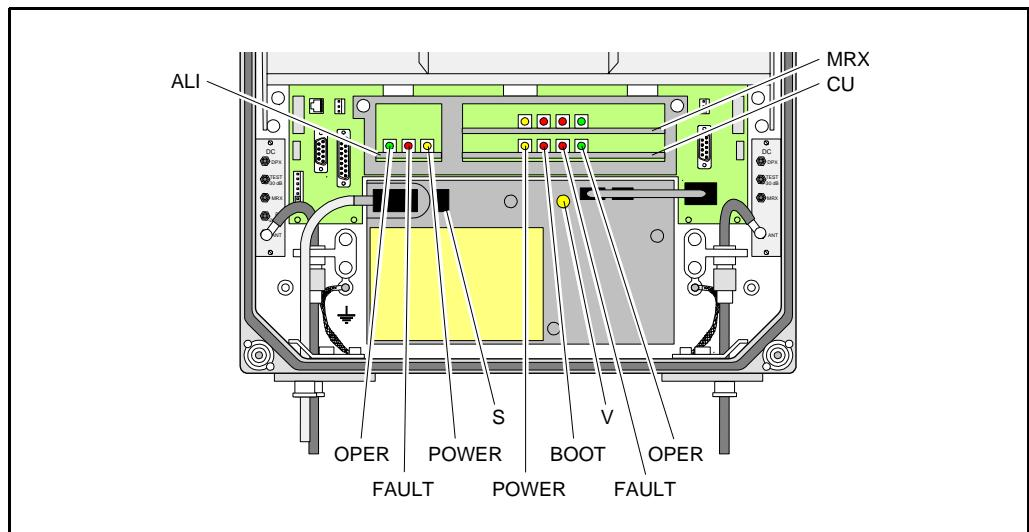

Figure 4-2. Internal indicators and mains switch
1. Turn the mains switch on (marked 'S' in Figure 4-2).
2. Check the LED on the power supply unit (V). It must be lit with a steady yellow light.
3. Check the four **CU board** LEDs (see Figure 4-2). A correct power up is indicated as follows:
4. Check the three **ALI board** LEDs (see Figure 4-2). The LEDs follow the alarm relays. A correct power up is indicated as follows:
Figure 4-2 shows the repeater indicators and the mains switch in the cabinet.
Figure 4-2 is, however, not applicable to the BMU type that uses the indicators on the FON board. The FON board indicators are described in the *FON - Fiber Optic Node Board* section in Chapter 5.